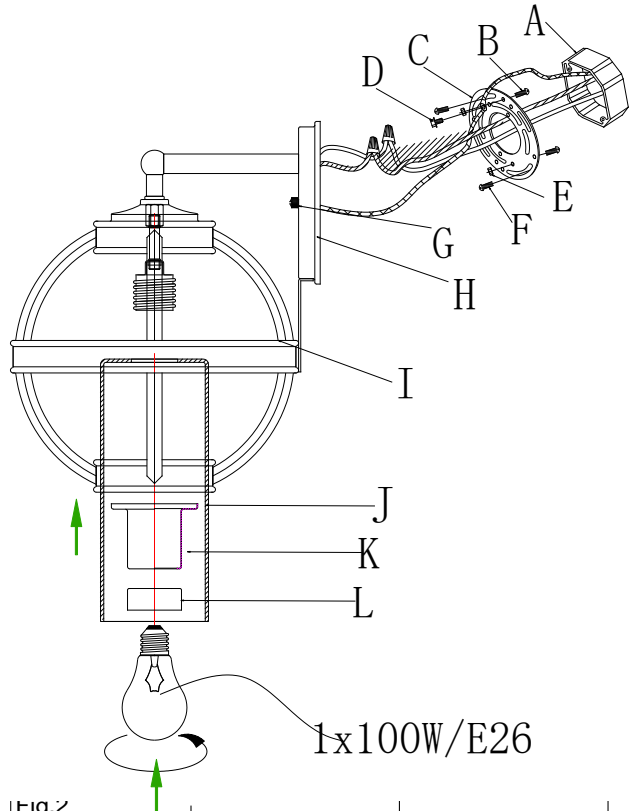

Fig.2
## CONNECTING THE WIRES (Fig. 2)
5. Connect the electrical wires as shown in Fig 2, make sure that all wire connectors are secured. If your outlet box has a ground wire (green or bare copper), connect the fixture's ground wire to it. Otherwise, connect the fixture's ground wire directly to the mounting plate (C) using the green screw (D) provided. After the wires are connected, carefully tuck them inside the outlet box.